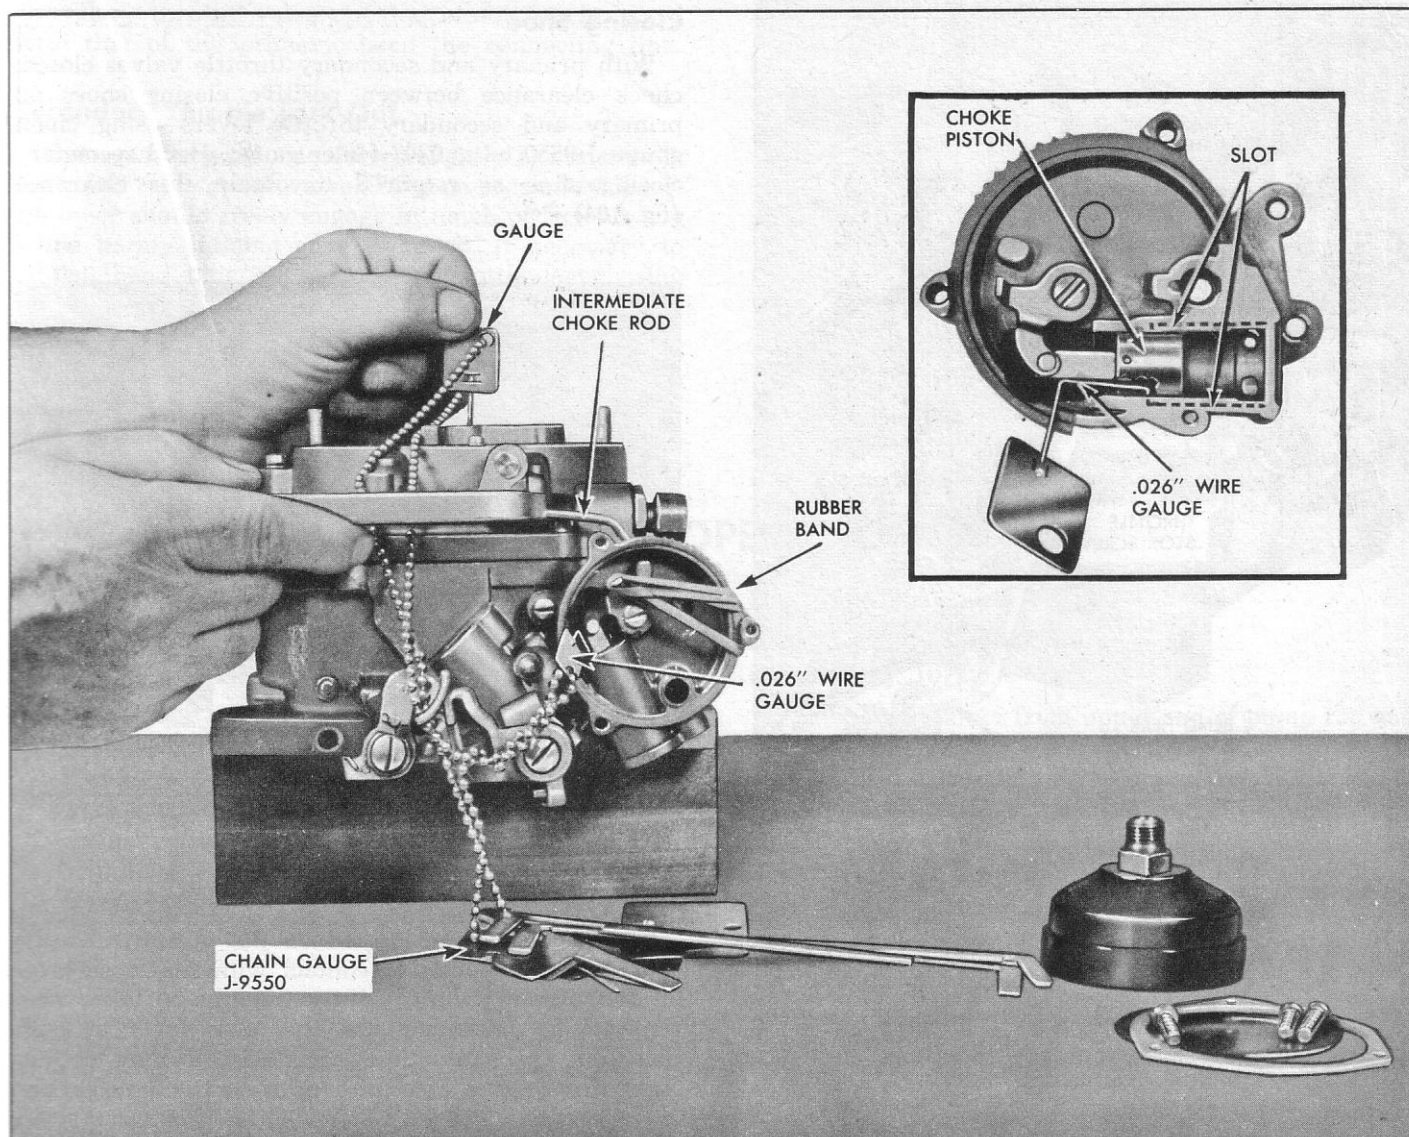

Fig. 101—Intermediate Choke Rod Adjustment
3. Open choke valve and insert .026" wire gauge, J-9550 between bottom of slot in piston and top of slot in choke piston housing (fig. 101). Close choke piston against this gauge (using a rubber band doubled will keep tension of piston against wire gauge leaving one hand free for adjustment while gauging choke valve, and check clearance between top of choke valve and web of air horn casting, using J-9550 wire gauge (.0825").